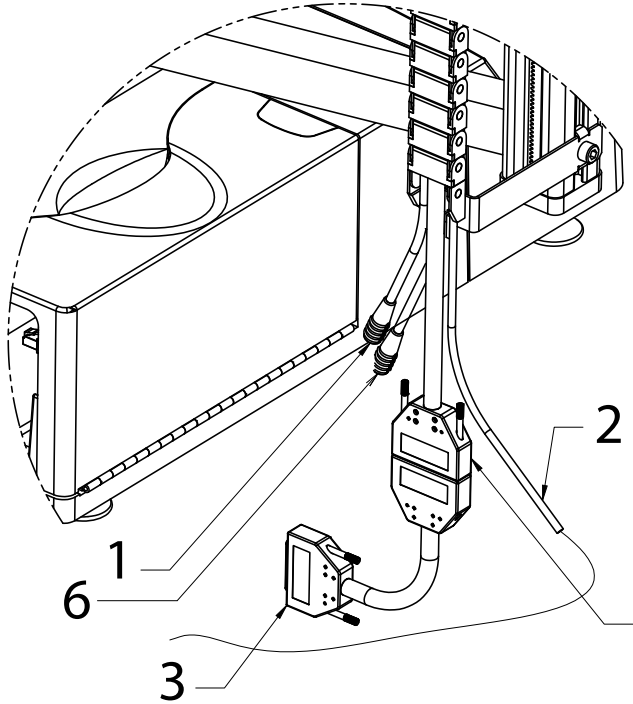

Figure 23. Video extensometer connectors
Figure 23 on page 49 shows a closer view of the video extensometer connections. The power cable (1) and the Ethernet cable (2) are shown with the video extensometer interface cable and the video extensometer adapter cable (3). The adapter cable shown